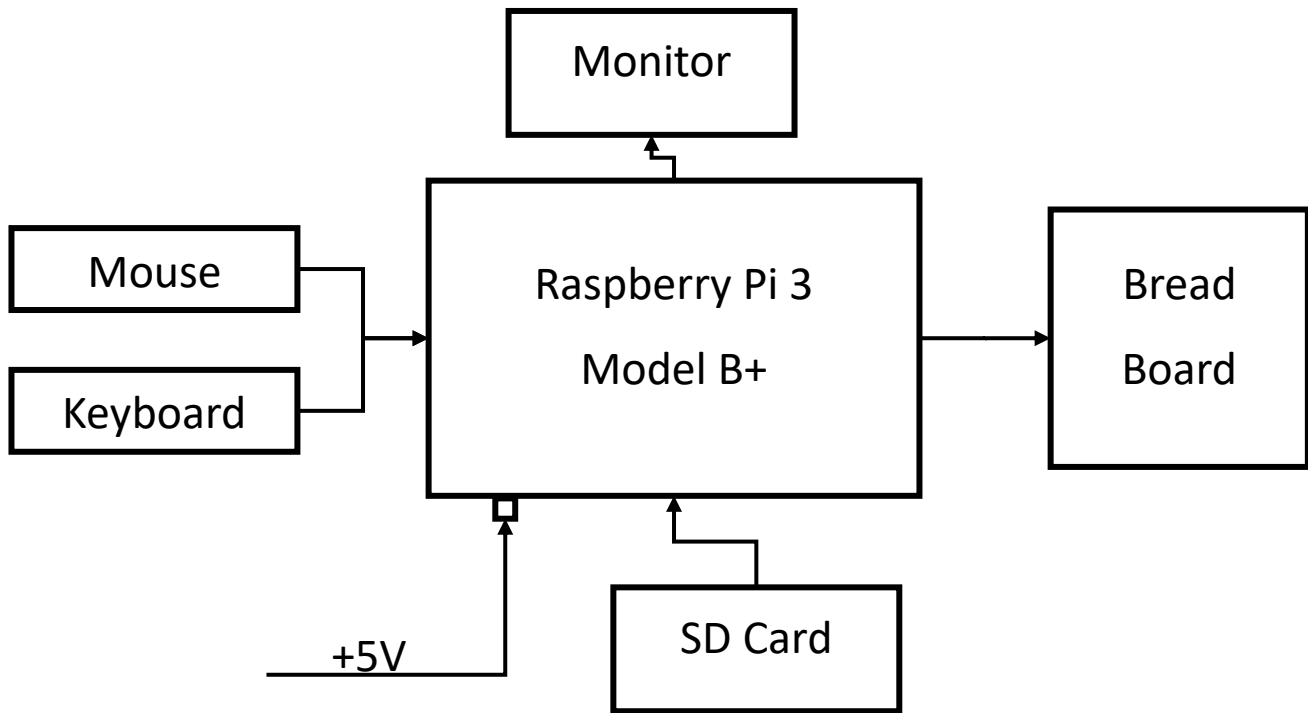

**Figure 2. Raspberry Pi CCA GPIO port**
**GPIO connector on the Raspberry Pi CCA is shown in Figure 2.**